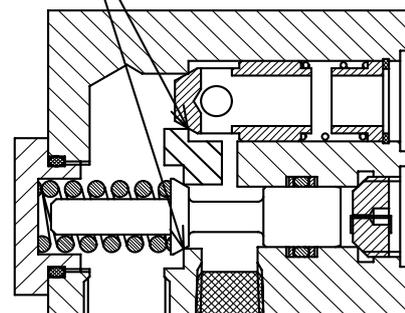
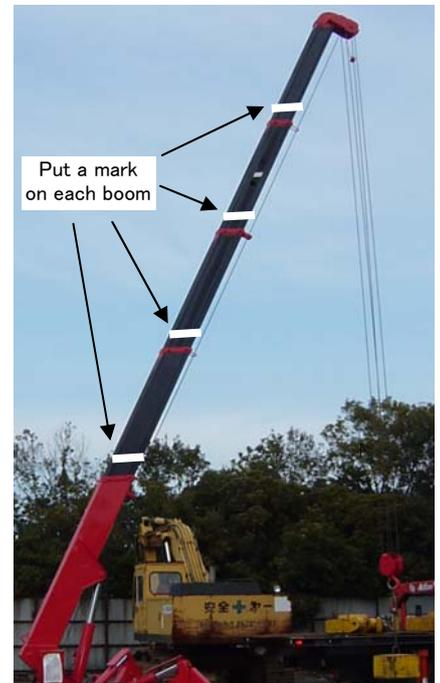

Fig3
Fig1
(1) Preparation before inspection
- ① Raise booms to an angle of approx. 30° .
- ② Put a mark on the rod with a felt pen (refer to Fig. 1).
- ③ In order to release pressure remained in the derrick system, stop the engine and shift the manual lever for raising/lowering of booms.
(2) Starting inspection
- ④ Remove the lowering hose to check if oil overflows continuously out of the cylinder port of lowering side. At the same time, check also that how far the rod shifts. If no oil flows out of the port of lowering side, the cylinder is normal.
- ⑤ Next, remove the raising hose, and if oil overflows continuously out of counter-balance valve port of raising side, there may be faulty on the seat surface of counter-balance valve (refer to Fig. 3). In addition, check how far the cylinder sinks simultaneously.
- ① Allow booms to be horizontal and extend them fully to put a mark on each boom section (refer to Fig. 1).
- ② Raise booms to their maximum to sling a load.
- ③ In order to release pressure remained in the telescoping system, stop the engine and shift the manual lever for telescoping booms.
- ④ Remove the retraction hose to check if oil overflows continuously out of the cylinder port of retraction side. At the same time, also check that which boom section sinks how far to grasp condition of booms as a whole. If no oil flows out of the port of retraction side, the cylinder is normal.
- ⑦ Raise booms to their maximum to sling a load.
- ⑧ In order to release pressure remained in the telescoping system, stop the engine and shift the manual lever for telescoping booms.
- ⑨ Remove the retraction hose.
(4) Inspection of tele2
- ⑩ Allow booms to be horizontal and extend them fully to put a mark on each boom section (refer to Fig. 1).
- ⑪ Raise booms to their maximum to sling a load.
- ⑫ In order to release pressure remained in the telescoping system, stop the engine and shift the manual lever for telescoping booms.
- ⑬ Remove the retraction hose.